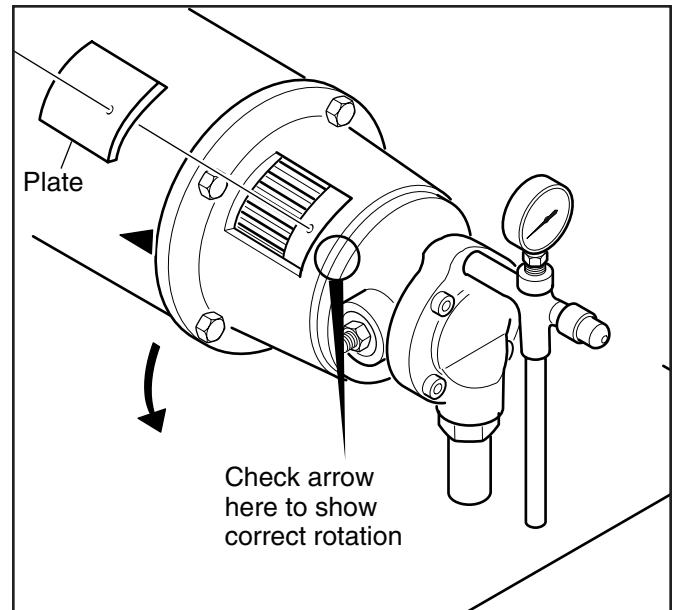

Figure 4.5 Check Pump Rotation
2. Start the hydraulic pump and check rotation as shown in Figure 4.5.